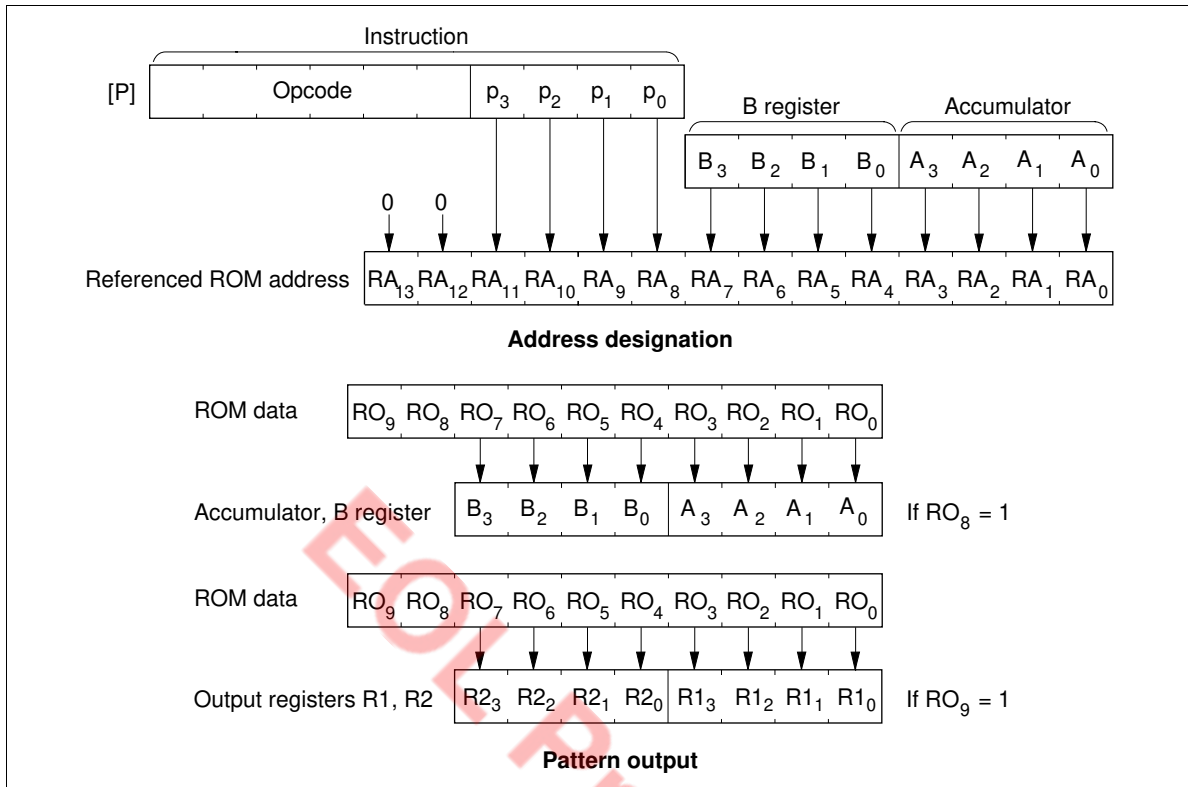

Figure 66 P Instruction
**P Instruction:** ROM data addressed in table data addressing mode can be referenced with the P instruction as shown in figure 66. If bit 8 of the ROM data is 1, eight bits of ROM data are written to the accumulator and the B register. If bit 9 is 1, eight bits of ROM data are written to the R1 and R2 port output registers. If both bits 8 and 9 are 1, ROM data is written to the accumulator and the B register, and also to the R1 and R2 port output registers at the same time.